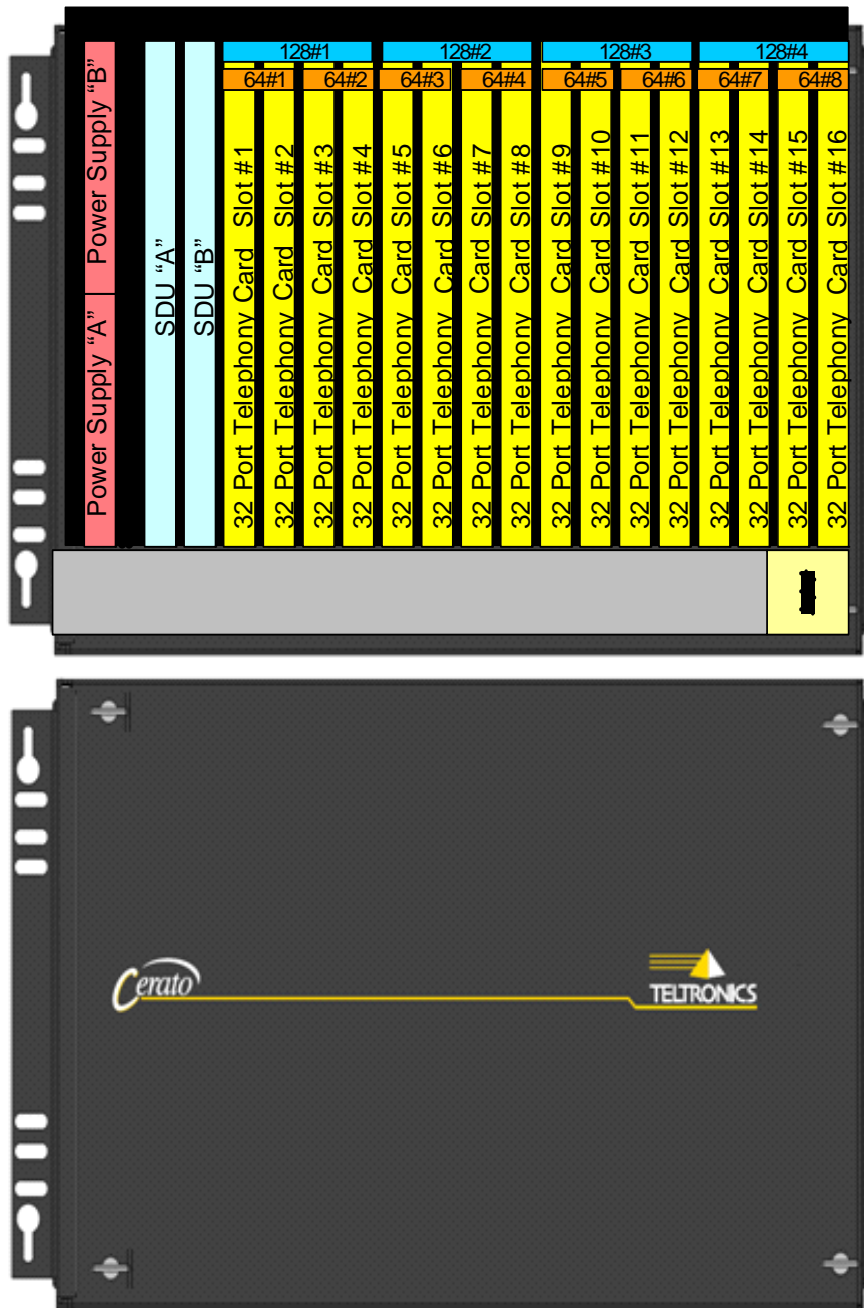

Figure 9. Cerato MDX shelf, front view
- MDX The MDX shelf, as illustrated in Figure 9, is housed in Universal EIA RS310-D 19-inch enclosed or open frame racks. The MDX includes sixteen 32 port card slots. The MDX has two power slots for redundant power supply and two SDU slots for redundant telephony systems. Both SDU slots are filled for redundancy. Universal port architecture allows any combination of up to four 128 port cards, eight 64 port cards, sixteen 32 port cards, sixteen 16 port cards or sixteen 8 port cards to be installed in the sixteen available card slots. The MDX backplane interfaces to the common control through two serial S-link interfaces that connect to an SDU. The SDU provides the transport of PCM digital data as well as signaling, alarm and configuration data. Each SDU can provide communication for a total of 512 PCM ports. The backplane has built-in access connectors (RJ48C) for up to sixteen T1 or E1 connections.